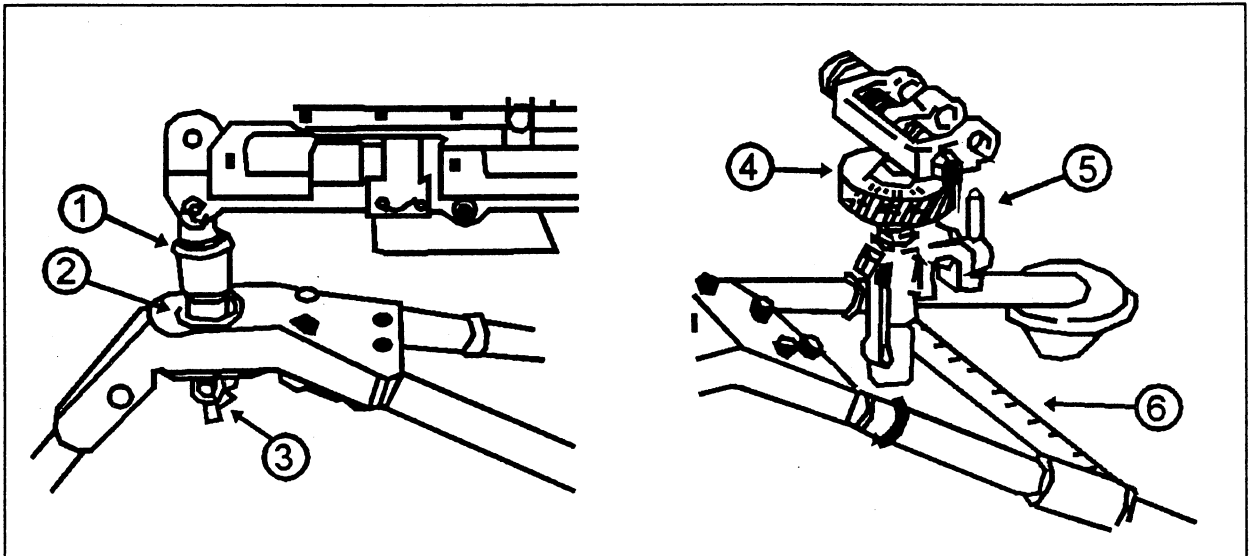

Fig 1-20. Mounting the flex mount.
- a. Mounting the flex mount assembly on the M122 tripod mount (see fig 1-20)
- (1) Place the pintle assembly (1) of the flex mount assembly into the sleeve bushing (2) on the M122 tripod mount.
- (2) Release the pintle lock assembly (3) to secure flex mount assembly to the M122 tripod.
- (3) Place the T&E mechanism (4) onto the traverse bar assembly (5) of the M122 tripod mount.
- (4) Lock the T&E mechanism (4) into place by turning the traversing lever (6) clockwise.